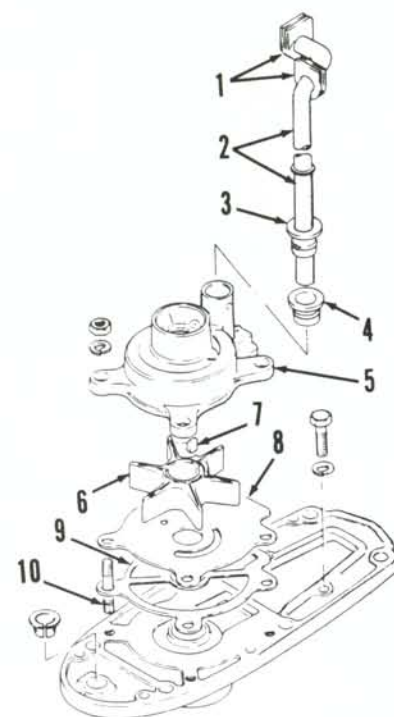

Fig. SZ11-43—Exploded view of water pump assembly.
WATER PUMP. A rubber impeller-type water pump is mounted between the drive shaft housing and gearcase. Key (7—Fig. SZ11-43) in the drive shaft is used to turn the impeller (6). If cooling system malfunction is encountered, check water intakes for plugging or partial restriction. If water intakes are clear, remove gearcase as outlined in LOWER UNIT section and check condition of water pump, water passages and sealing surfaces.